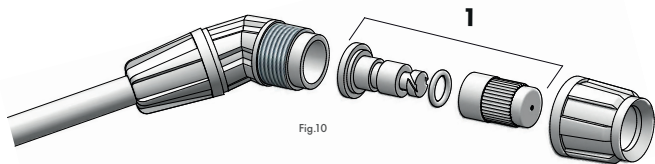

Fig.10
Point the lance tip (fig. 10) at the location to be sprayed.
With the adjustable nozzle (fig. 10/pos.1) you can regulate the output stream. By tightening or loosening the nozzle tip you can achieve various spraying degrees - from mist to continuous stream.
The filter (fig. 12/pos. 1) located on the lance handle (fig. 12/pos. 2) and the adjustable nozzle (fig. 10/pos. 1) located at the lance tip (fig. 1/pos. 1) must be cleaned periodically and before any prolonged downtime.
Clogged adjustable nozzle on the lance tip (fig. 10/pos. 1).	Unscrew the lance tip and remove the adjustable nozzle (fig. 110/pos. 1). It can be disassembled, cleaned and reassembled.